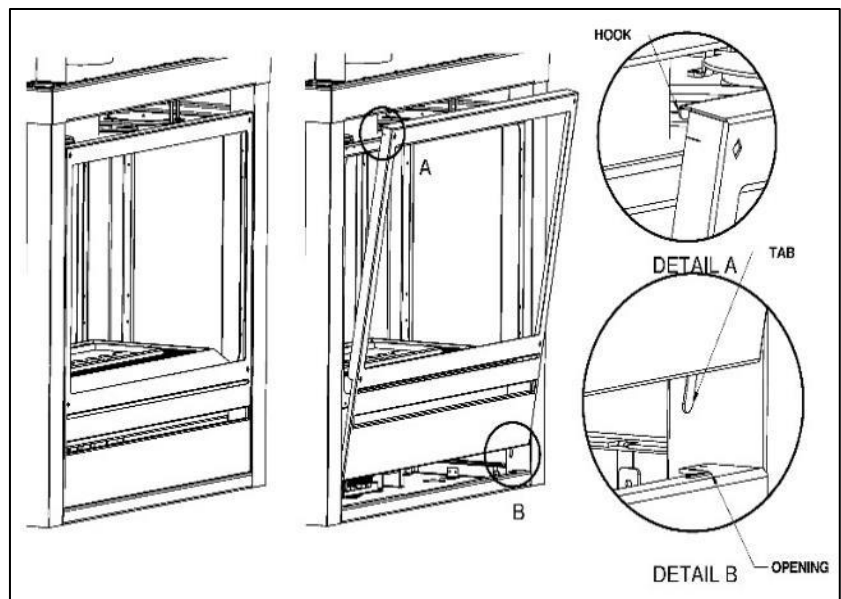

Figure 8.4.2
- Start by inserting the tabs of the door in the opening located at the bottom of the appliance (figure 8.4.2.Detail B)
- Tilt the top of the door and slightly lift it (without removing the bottom tabs from their slots) to positioning the hook (Figure 8.4.2 Detail A) in place.
- Raise vertically to disengage the hook (Figure 8.4.2 Detail).
- Disengage the bottom tabs.(Figure 8.4.2 Detail B)